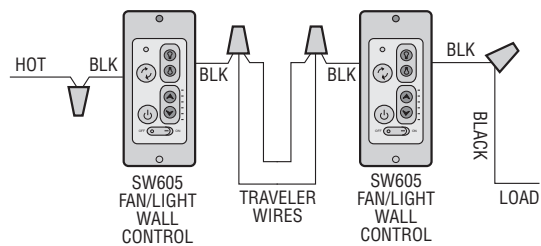

Figure 31
**NOTE:** Retrofit 3-way installations are likely to include two traveler wires between the two wall boxes. In new construction, only one traveler wire is required (See Figure 31).
The wall control is supplied with a white, ivory, and almond color switch covers. Choose the finish that best suits your needs and snap the cover onto the wall control (Figure 31).